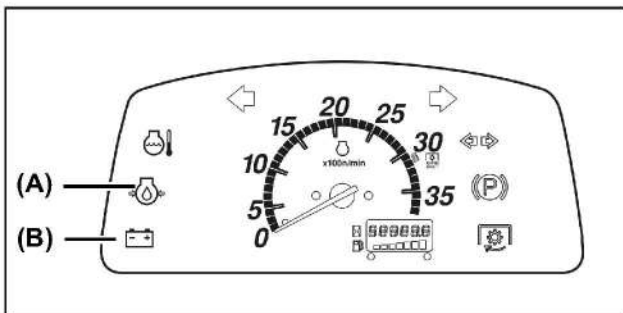

Fig 7-16
- While the starter key switch is in the preheating position. The engine oil pressure warning light and the alternator/battery charging light illuminates. (Fig 7-16)